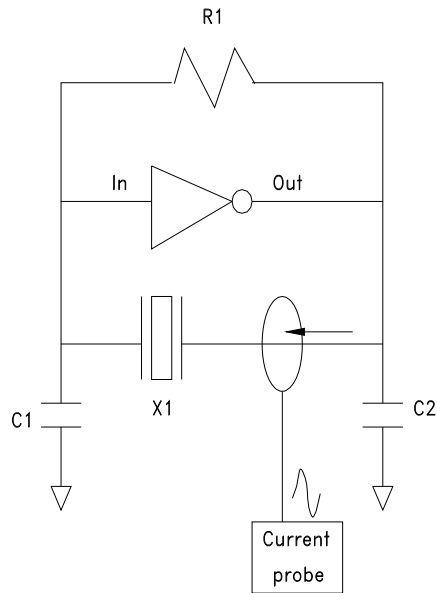

Figure 1
- Insert current probe through the wire connected to the crystal. See figure 1.